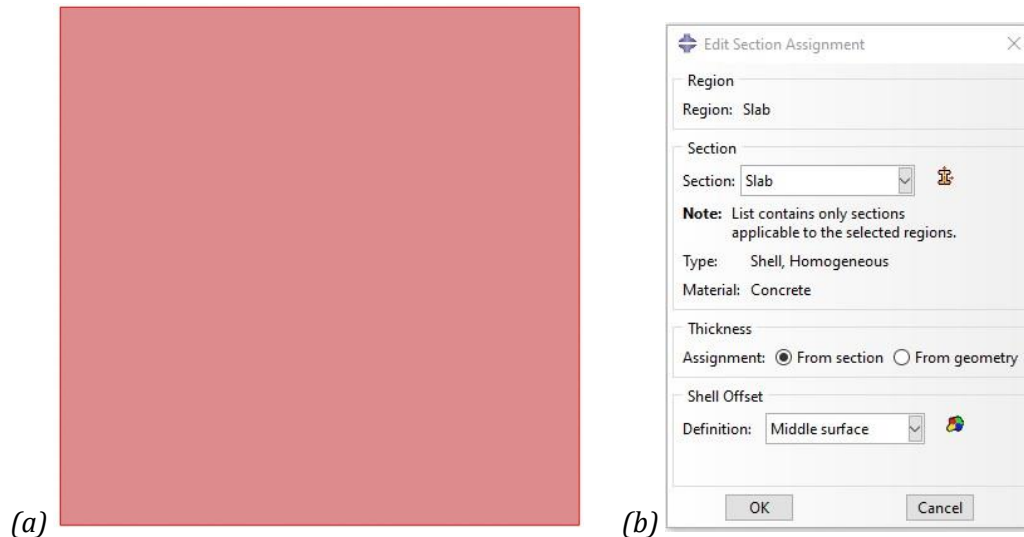

Figure 1-3 – (a) Selecting the rooftop in the viewport and (b) the Edit Section Assignment dialog box.
5. Select the rooftop (See Figure 1-3(a).) and check **Create set** in the prompt. Call the set **Slab** and click **Done**.
6. In the **Edit Section Assignment** dialog box, select the Slab as the section. Use **From section** as **Thickness** and **Middle surface** as **Shell offset**. See Figure 1-3(b).